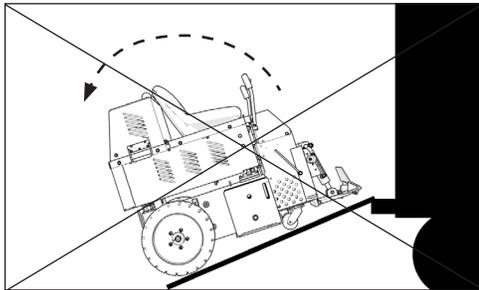

FIG. 2
**ATTENTION :** LA MACHINE EST LOURDE À L'ARRIÈRE. NE PAS L'UTILISER SUR UNE PENTE RAIDE, ELLE POURRAIT SE RENVERSER ! (FIGURE 2). NE PAS UTILISER DE RAMPE POUR DÉPLACER LA MACHINE.